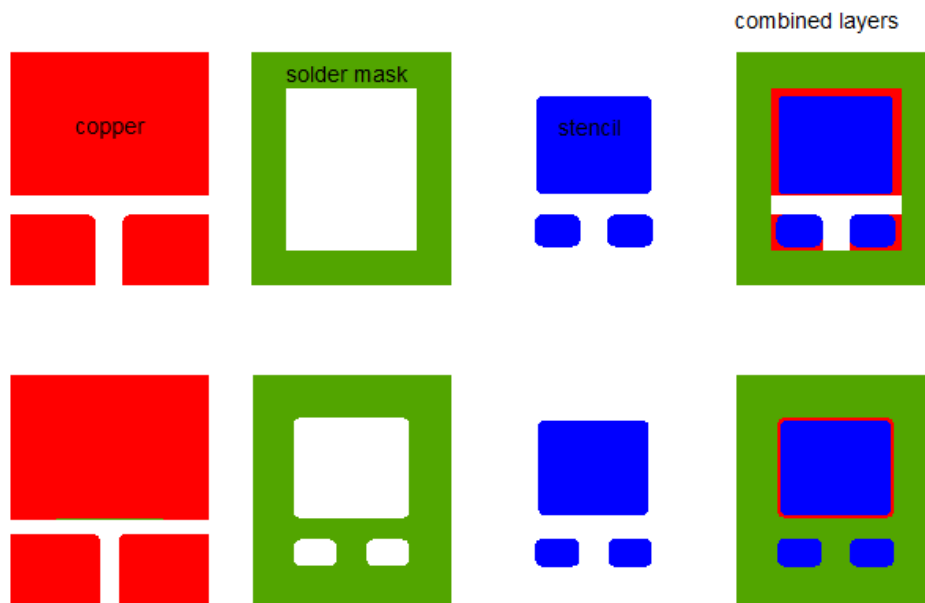

Figure 5. Layout design A (top row) and layout design B (bottom row).
- Layout design A: for low component count density. The solder mask opening defines the outline of LUXEON Z ES emitter package outline. The PCB pads for LUXEON Z ES emitter are copper trace defined. See Figure 5 (top row).
- Layout design B: for high component count density or any LED arrangement where it is no longer possible to electrically isolate the thermal pad. Each PCB pad of corresponding LUXEON Z ES emitter pads is solder mask defined. See Figure 5 (bottom row). The higher component count density board may require tighter PCB fabrication tolerance and tighter assembly tolerance such as placement accuracy and stencil printing to ensure high product quality and process yield. Note: layout design B can be also be used for low density assembly.